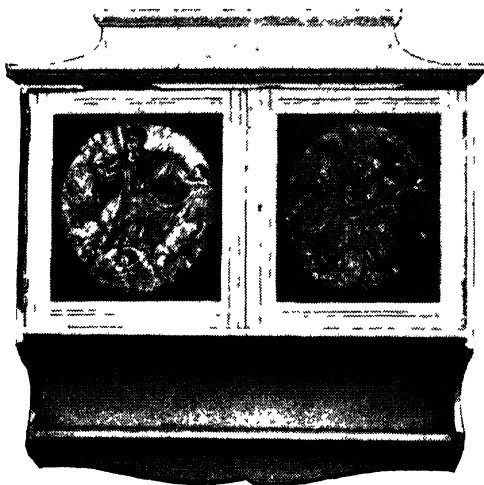

Fig. 104.—Cedar-wood Cupboard with Antique Needlework Panels
**Repairing a Painted Cedar-wood Cupboard.**—Occasionally furniture in oak, mahogany, or other fine woods, which has been painted instead of being polished, has to be dealt with. The following is an example. Fig. 104 shows a hanging medicine cupboard about 3 ft. square by 8 in. deep. It is made of solid cedar-wood throughout. The sides, shelves, and back are of  $\frac{1}{2}$ -in. thickness; the top moulded shelf of 1-in. thickness, the door frames of  $\frac{3}{4}$  in., and the panels of  $\frac{1}{4}$  in. It is of modern make, but the panels are covered with antique needlework. The woodwork has been painted at three different times during its existence, first white, then green, then white again; and has had two coats of paint each time. It is a pity to paint cedar, and, as it had not been done well, the cabinet had the appearance of a cheap deal article. The needlework is in satin stitch of various colours, and undoubtedly a fine piece of work. It was purchased by an English tourist from an old church in Spain, where it was probably worked by the nuns a hundred or more years ago. An observation shows that the colours and arrangement are good, that the work has been done by